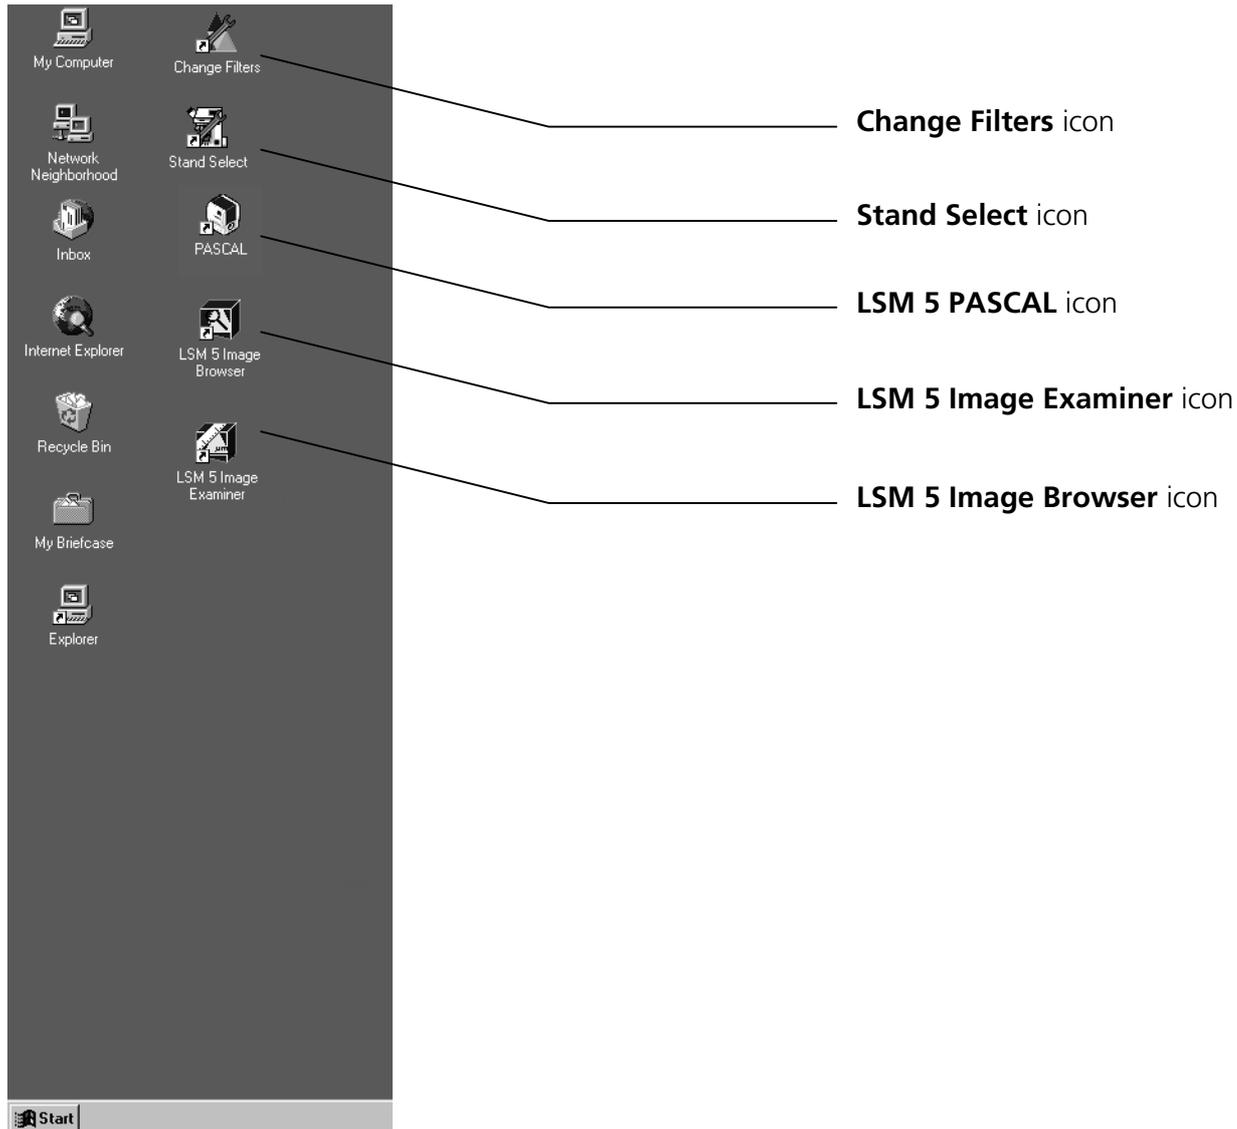

Fig. 5-6 WINDOWS NT operating system desktop
- Double-click on the **PASCAL** icon on the desktop of WINDOWS to start the LSM 5 PASCAL software program (see Fig. 5-6).